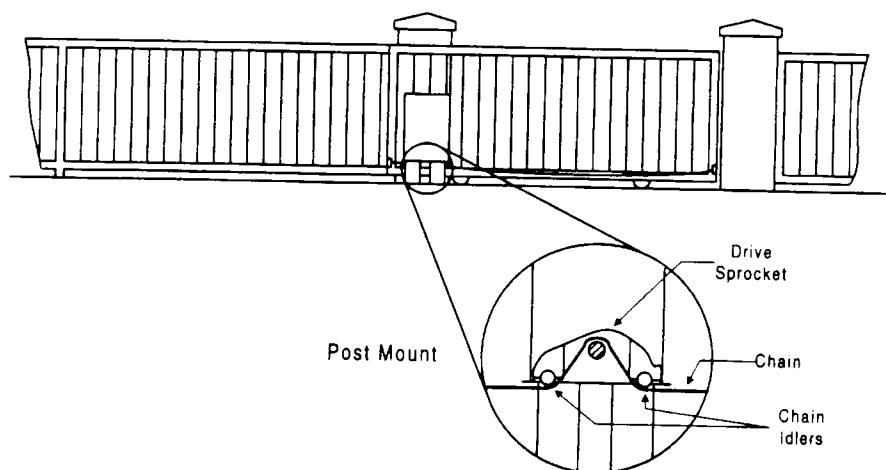

FIGURE 1.9.2C
2. Route the chain through the gate operator: under the chain guide idlers and over the drive sprocket (Figure 1.9.2C).
3. Route the chain through the gate operator: over the chain guide idlers and around the drive sprocket (Figure 1.9.2C), and around the idler assembly.